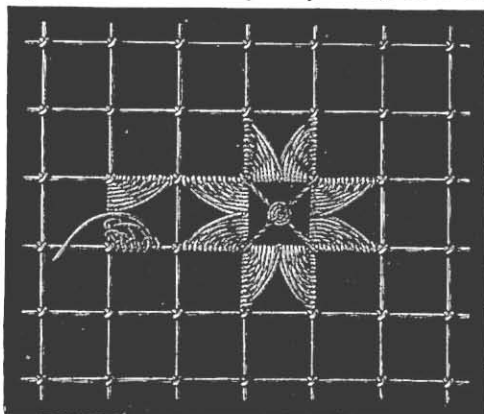

Fig. 36. Star with corners in buttonhole stitch.
**Star with corners in buttonhole stitch** (fig. 36). — Few kinds of embroidered net are so quickly executed as the one shewn in fig. 36. Two buttonhole stitches on the outside and a single crossing of the thread below are all that is needed to make this pretty star. The middle square is ornamented with a little wheel.